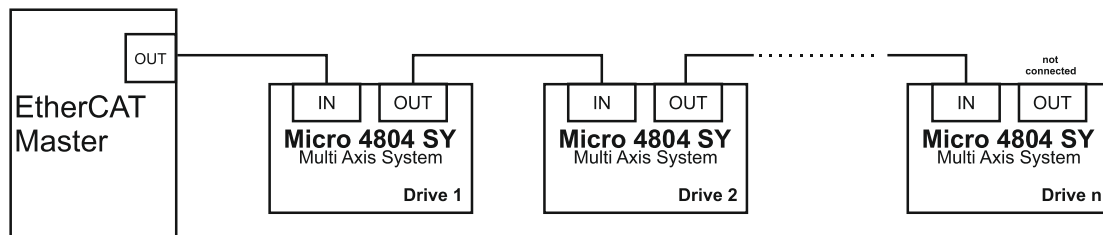

Figure 36 EtherCAT network linear topology
- Linear, when the OUT port of the last drive in the chain remains not connected. Master is connected to IN port of the first drive; OUT of the first drive is connected to IN of the following drive; OUT of the last drive remains unconnected. See **Figure 36** for a visual representation of the linear topology.